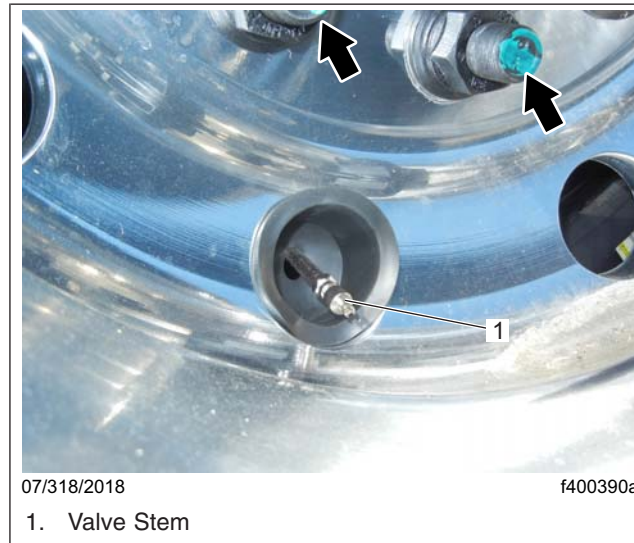

Fig. 8, Marking Wheel Studs
3. Mark the two studs closest to the valve stem as shown in **Fig. 8**, for proper wheel assembly location when reinstalling the wheel assembly on the hub.